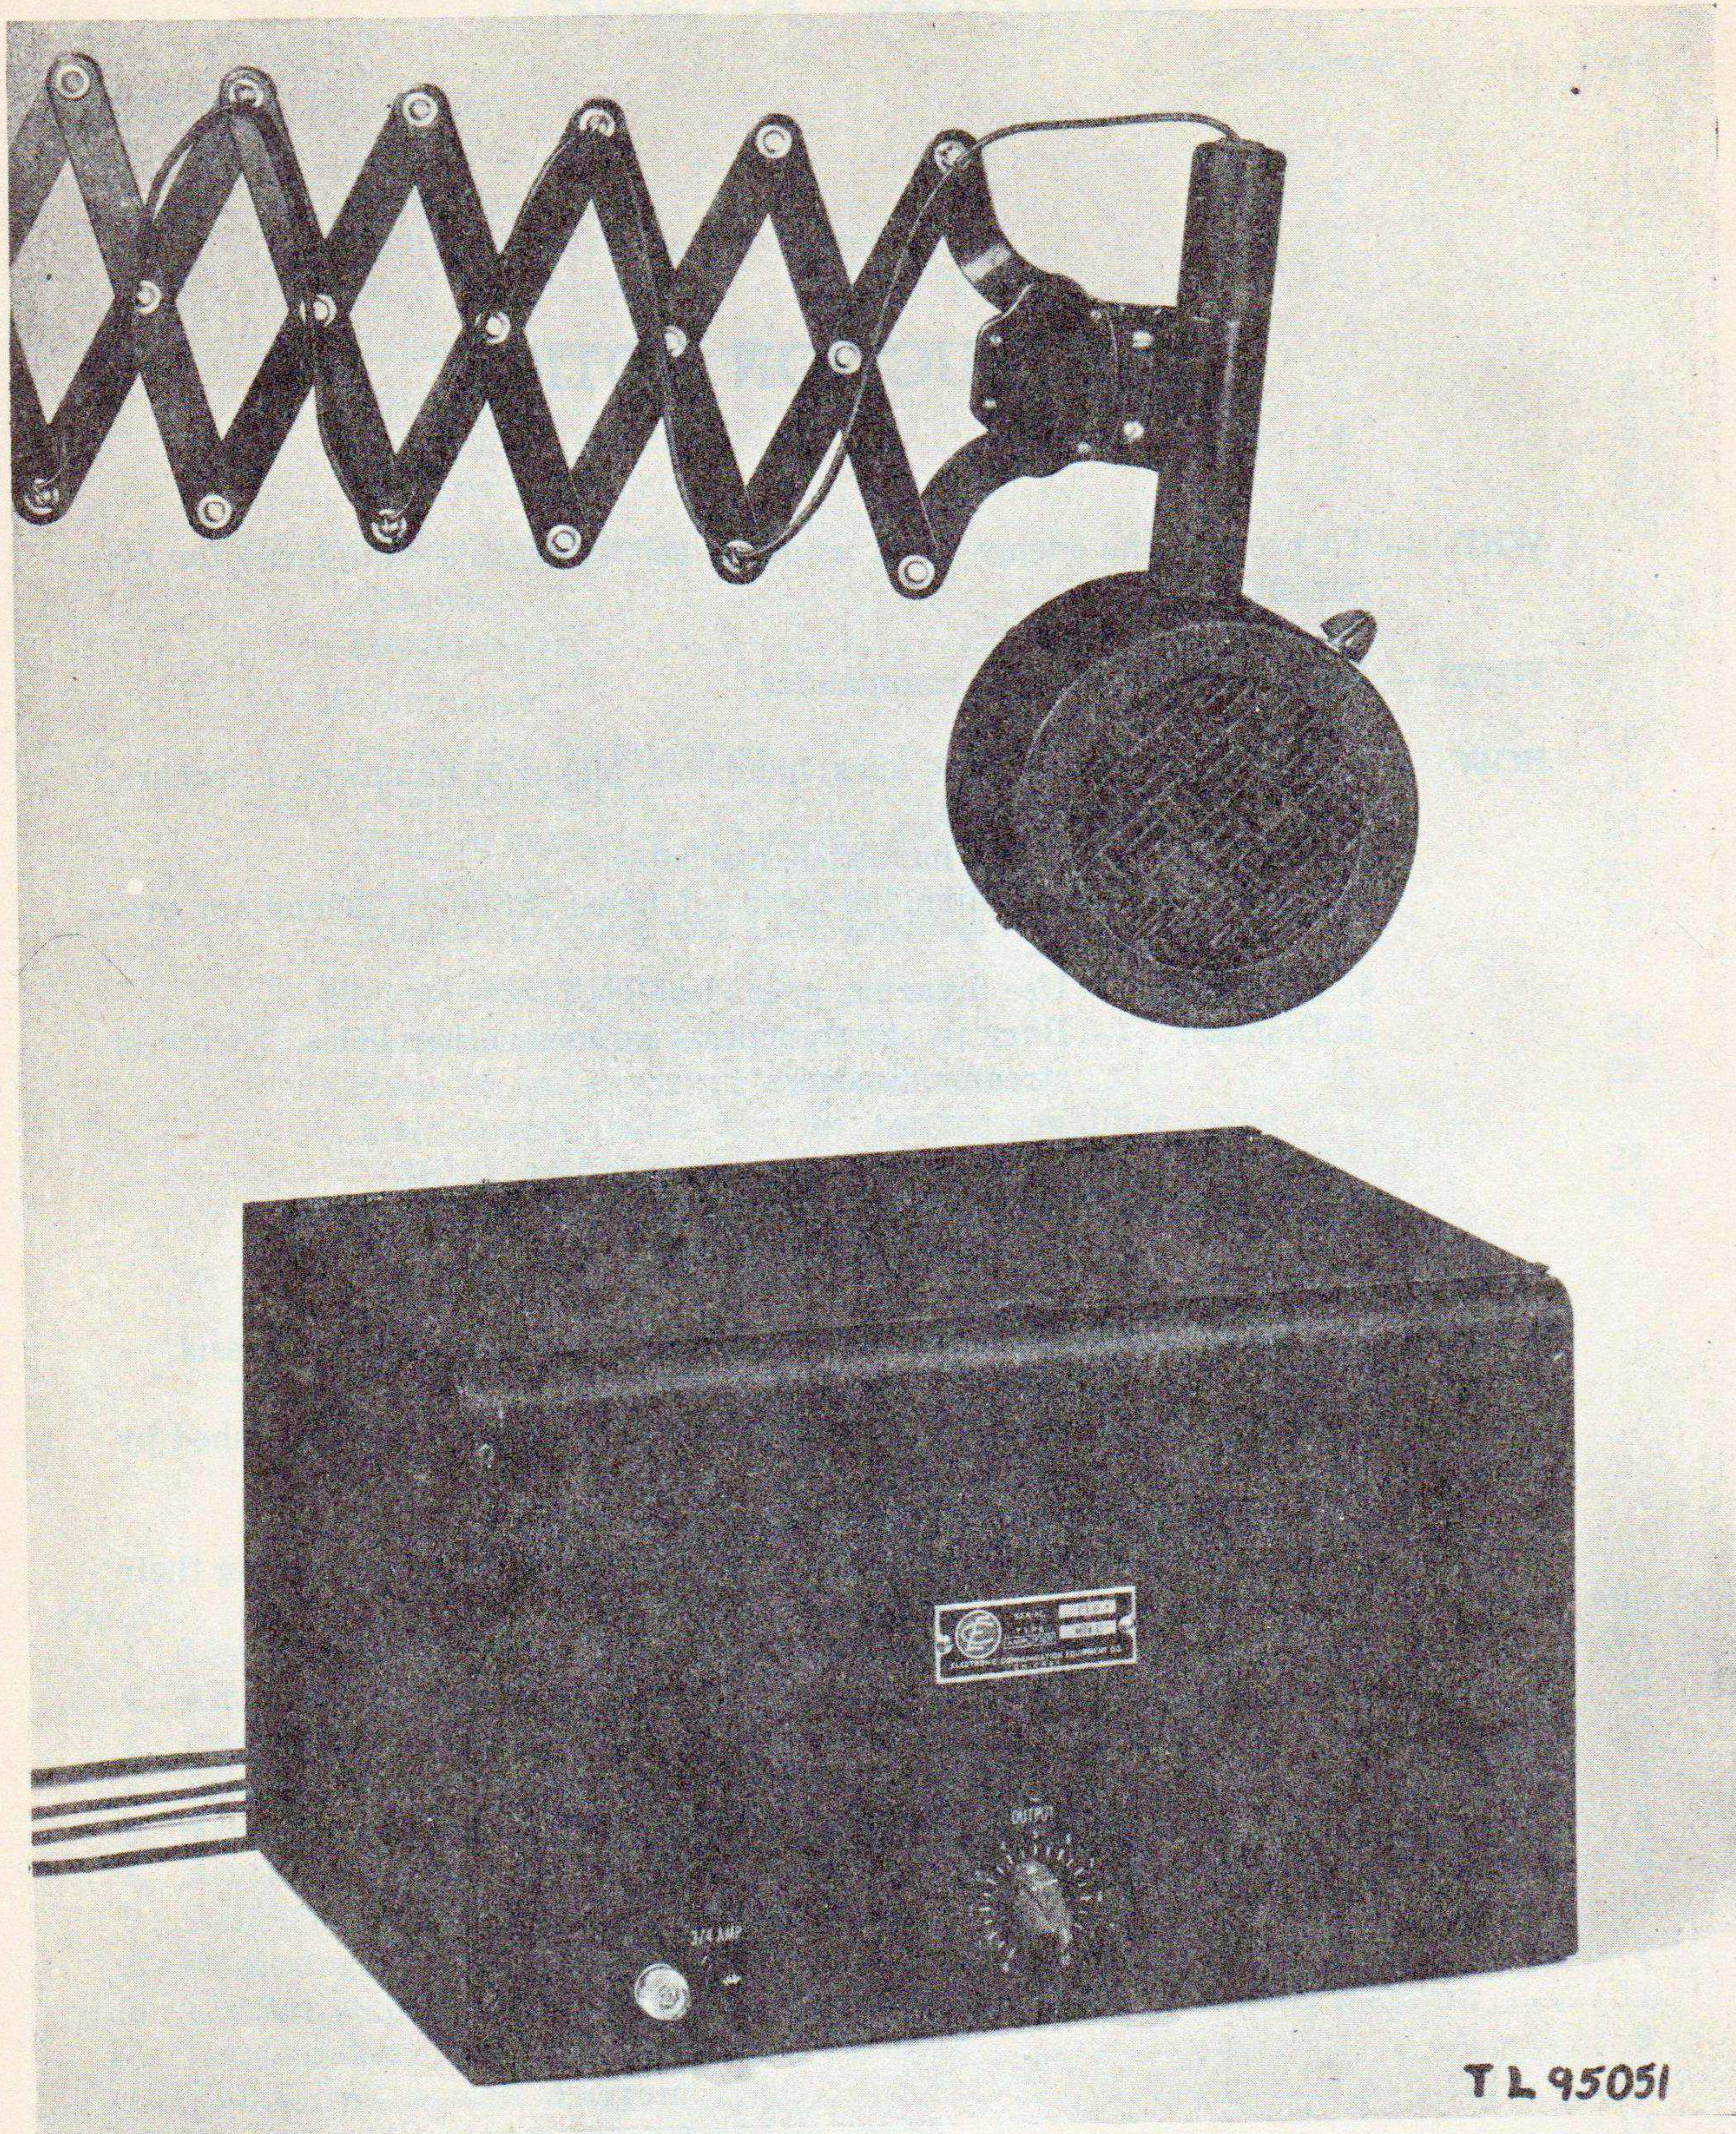

Figure 1. Limiter amplifier, type 3BLH, and speaker, type 6AL.
Limiter amplifier, type 3BLH, and speaker, type 6AL, is designed for use in railroad train dispatching and other centralized traffic control systems. The equipment consists of an amplifier and a separately housed loudspeaker (fig. 1).
a. Adjustment of the Line Amplifier. (1) Set the OUTPUT control on the front panel at 10 (fig. 1). Always leave this control at 10 for most efficient operation of the amplifier. If line noise is at such a high level that the LINE CONTROL will not reduce it sufficiently, the OUTPUT control may be set at a value slightly below 10, but should never be used below 5.